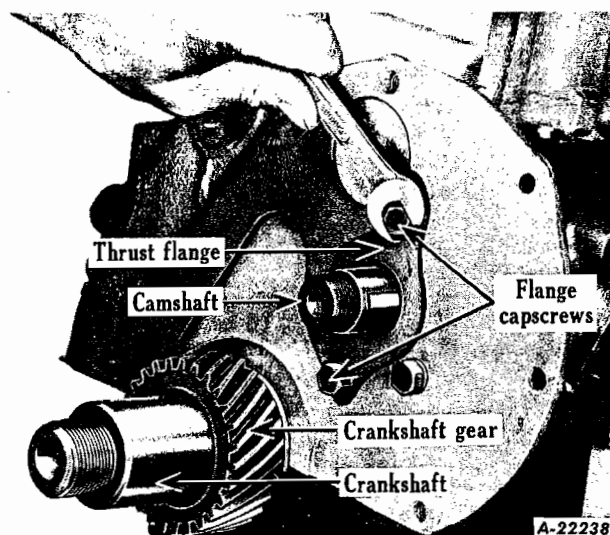
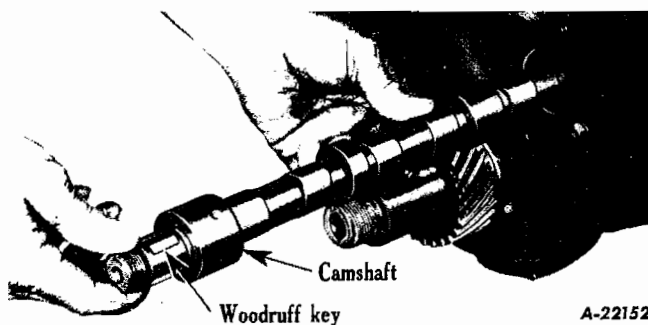
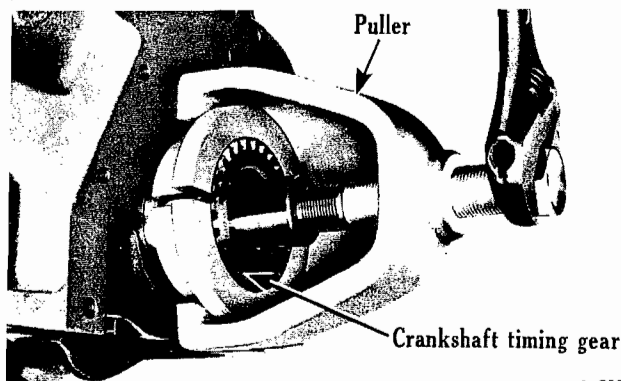

Fig. 17 - Removing camshaft with gear removed. Camshaft may be removed with gear attached.
Fig. 18 - Removing camshaft.
Fig. 19 - Pull crankshaft gear, using SE-1715 Gear puller. Lubricate threads of puller to prevent damage to puller threads.
3. Remove capscrews from camshaft retainer thrustflange plate (Fig. 17). Remove camshaft (Fig. 18). Remove capscrew holding the gear case cover plate to block; remove plate and gasket. Remove crankshaft timing gear, using a gear puller (Fig. 19). (NOTE: Lubricate puller screw to prevent damage to screw threads.)